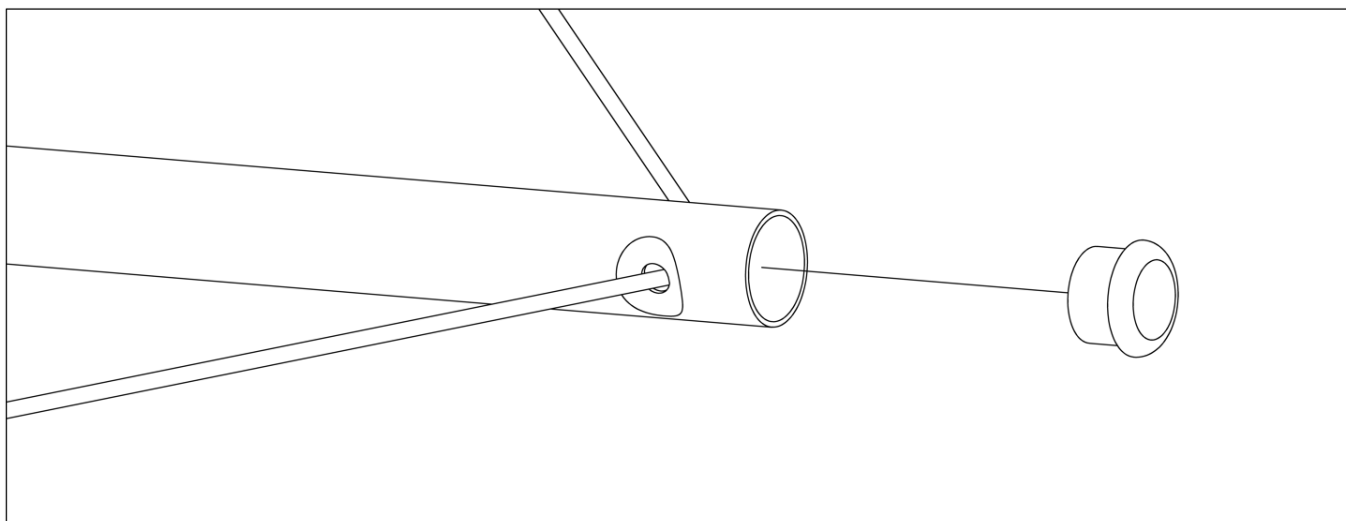

Fig 15. Fit endcaps.
4. Fit the endcaps to the end of each arm. (Fig 15).